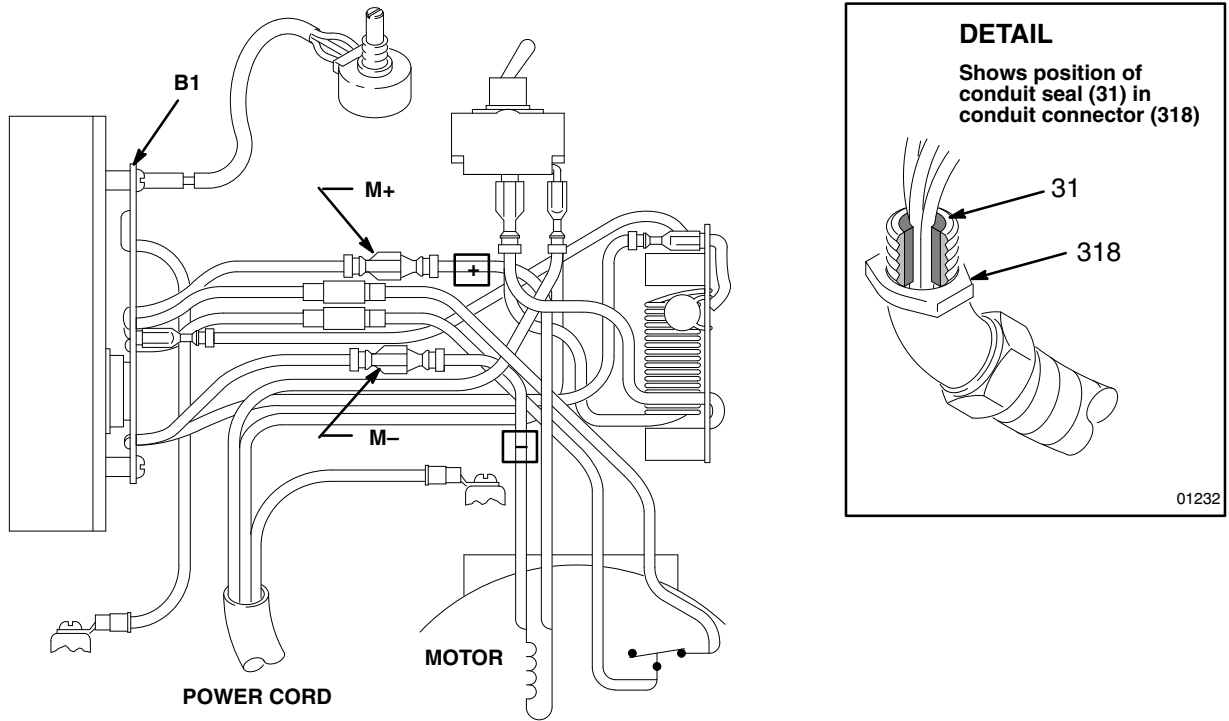

Fig. 21
Motor Replacement (Fig. 21 and 22)
2. Remove the motor shield (1).
3. Remove the pressure control board/cover (301). Disconnect the four motor leads. See figure 21.
4. Loosen the conduit connector nut on the conduit connector (318) at the pressure control.
5. Swing the conduit (41) away from the conduit connector (318).
6. Remove the conduit seal (31) from around the conduit elbow coming into the pressure control. Pull the motor leads through the elbow, one at a time.